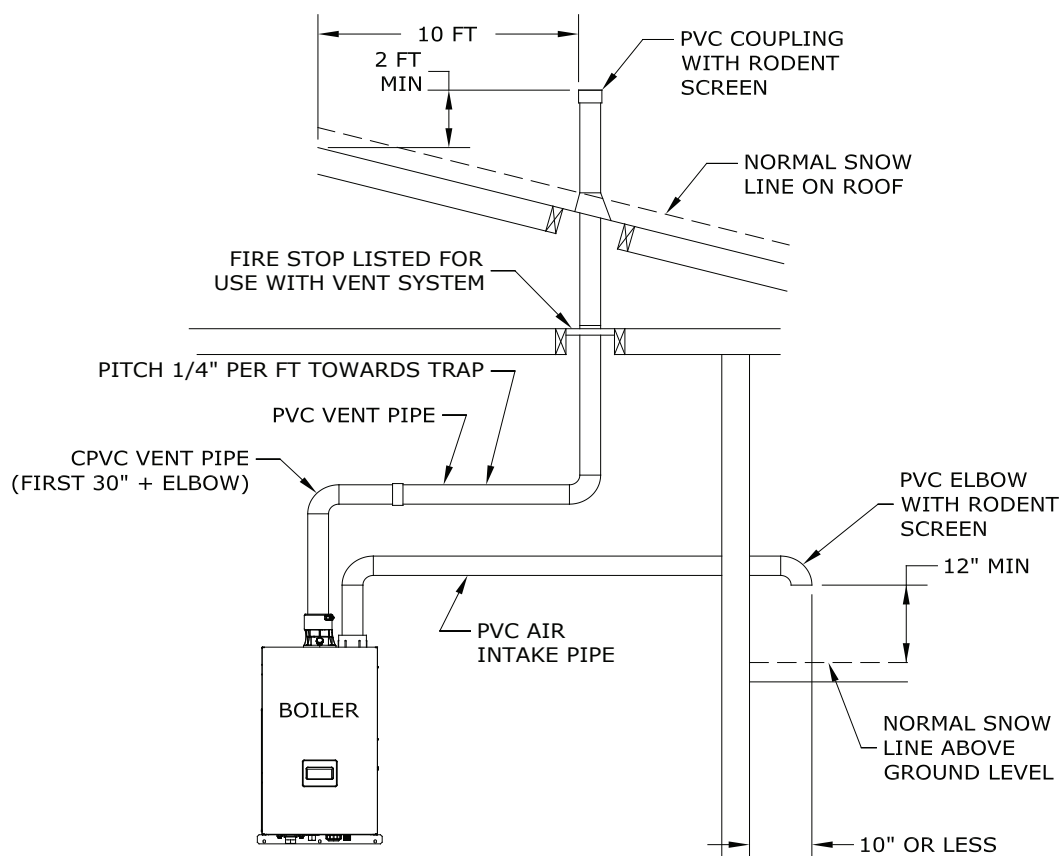

Figure 7.22: Split Rigid Vent System (Vent Options 11-14)
2. Vent Terminal Location – Observe the following clearances from roof mounted vent terminals (also see Figures 7.22, 7.23, 7.24a or 7.25a):
3. Horizontal Air Intake Terminal Location - Observe the following limitations on the intake terminal location (also see Figures 7.22, 7.23, 7.24a, and 7.25a):